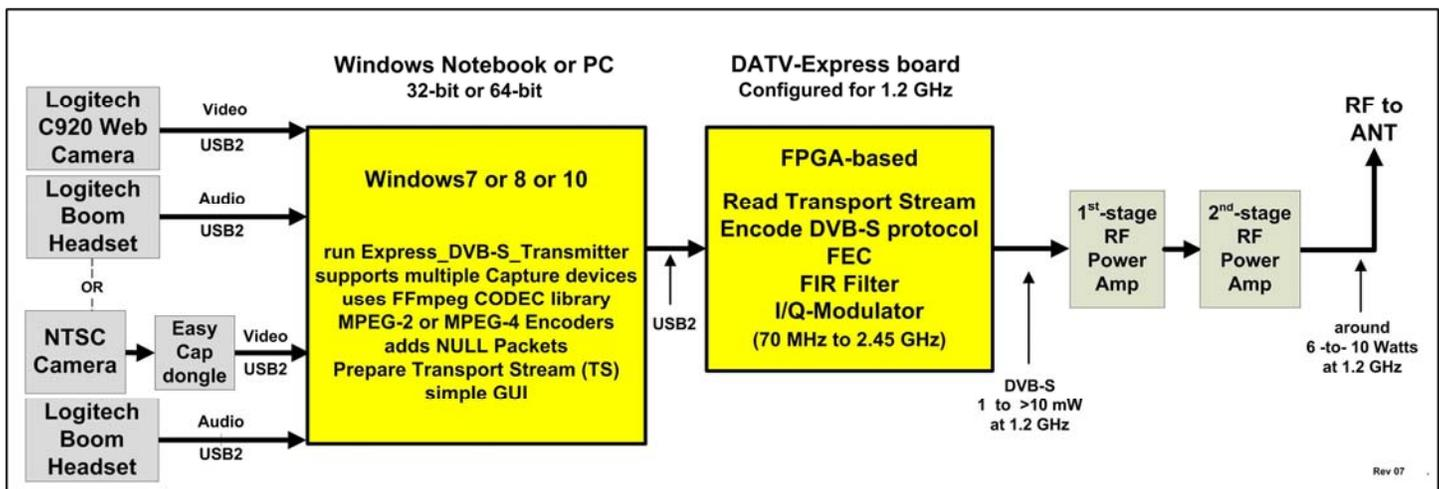
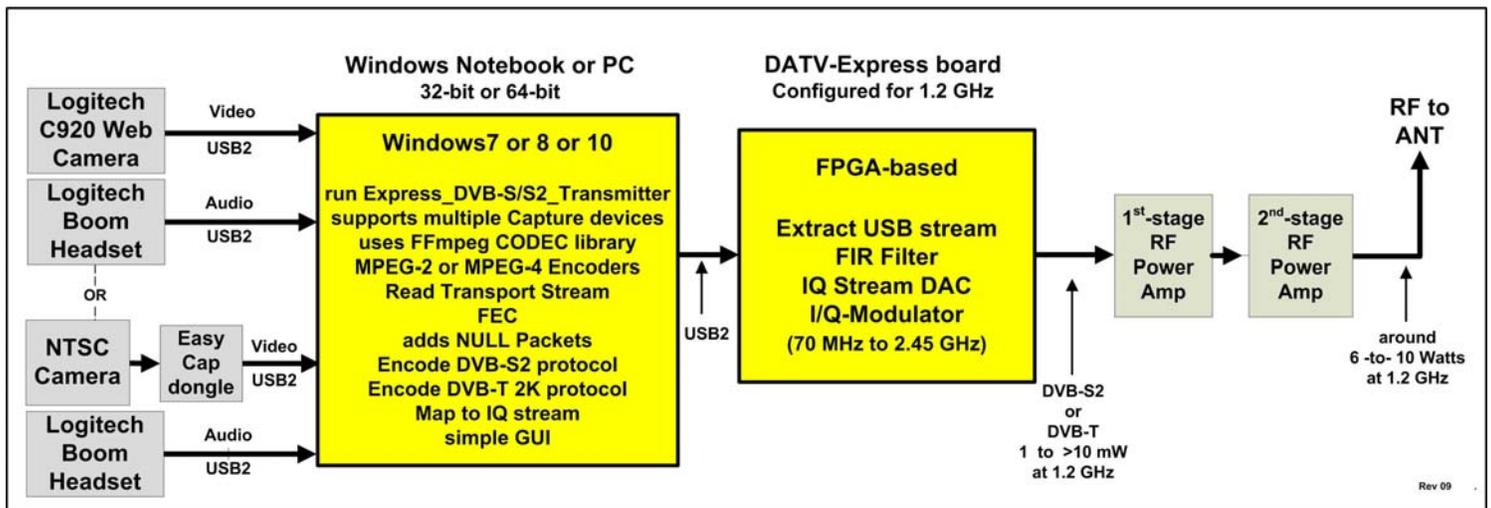

Figure 1 – Block Diagram of typical DATV-Express board set-up with v1.23 software for DVB-S protocol
Figure 2 – Block Diagram of typical DATV-Express board set-up with v1.23 software for DVB-S2 protocol or DVB-T protocol
This User Guide covers using the Express_DVB-S_Transmitter software to drive the DATV-Express Board transmitter in both 32-bit or 64-bit Windows environment on Intel-based desktop and notebook computers, as shown in **Figure 1** and **Figure 2**. For preparing the DVB-S protocol, the Windows PC captures the video/audio input stream, uses software-based CODECs for encoding, prepares the Transport Stream (TS) and handles the GUI interface. The hardware board FPGA does most of the hard work for processing the DVB-S protocol, adding the Forward Error Correction (FEC) calculations (as shown in **Figure 1**). The DATV-Express hardware board also shapes the IQ data streams and modulates using an Analog Devices model ADRF6755 IQ-modulator chip.
When running the DVB-S2 protocol, the FPGA is too small to encode the DVB-S2 protocol. The same FPGA restriction is true for the DVB-T protocol. Therefore both the DVB-S2 and DVB-T protocols need to be encoded on the Windows computer (as shown in **Figure 2**)
The Express_DVB-S/-S2_Transmitter software requires a Windows desktop/notebook and the DATV-Express hardware board to perform all of the DVB-S processing. The Windows PC will capture the video and audio and then send the processed Transport Stream (TS) datastream to the DATV-Express hardware board via USB2 connection. The FPGA on the hardware board does all the DVB-S protocol encoding. See Figure 1 (earlier page) for a block diagram of a typical DATV-Express transmitter set-up for the DVB-S protocol (shown configured to transmit on 1.2 GHz).